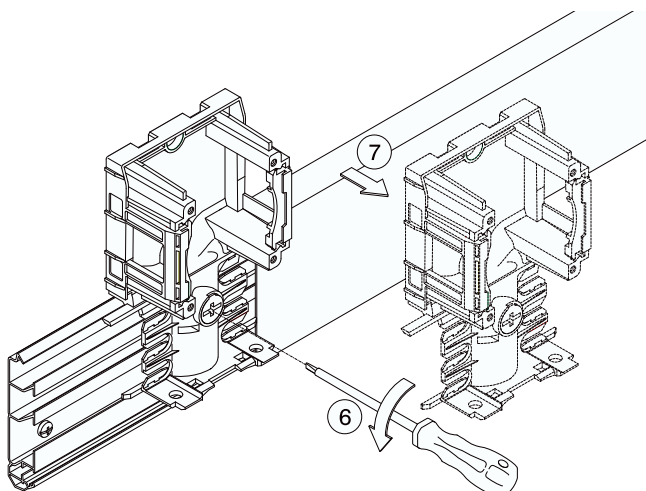

Figure 6
3. Remove the device carrier bottom part (fig. 6)